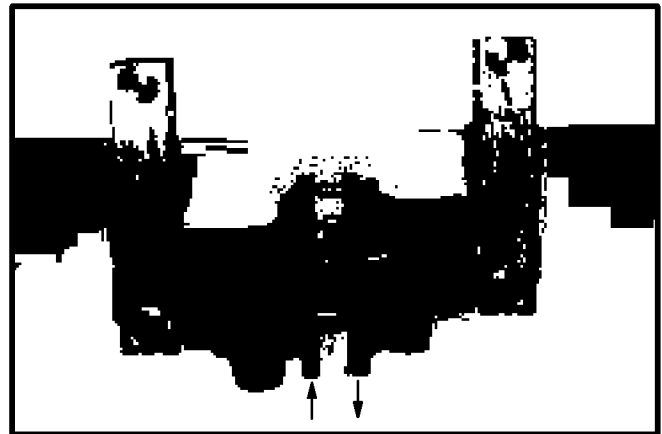

FIGURE 27
straight up (See FIGURE 27). Be sure the gear teeth mesh and put the two case halves together. Install all of the hardware but DO NOT tighten.
11. Slide the case halves against each other (See Arrows in FIGURE 27) to eliminate backlash (play between the shafts) and tighten the hardware. Torque hardware to 30 ft. lbs. (41 N·m).